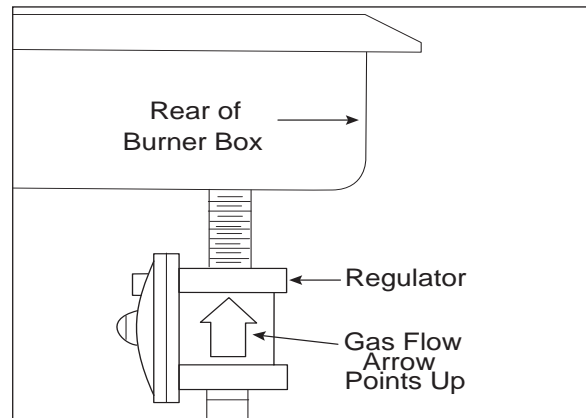

Fig. 3-10. Regulator Flow Arrow
- Assemble flexible metal connector from gas supply pipe to pressure regulator. (See Figure 3-10).